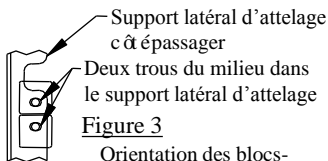

Figure 3
7. Remove M10 fasteners to reattach exhaust hanger and load leveling compressor, and reinstall fasteners. Note: on AWD models, it will be necessary to pass exhaust hanger through 2-3/4" long slot in side bracket and use (2) 1/4" spacer blocks, as shown in figure 2 and figure 3, to reattach exhaust hanger bracket.